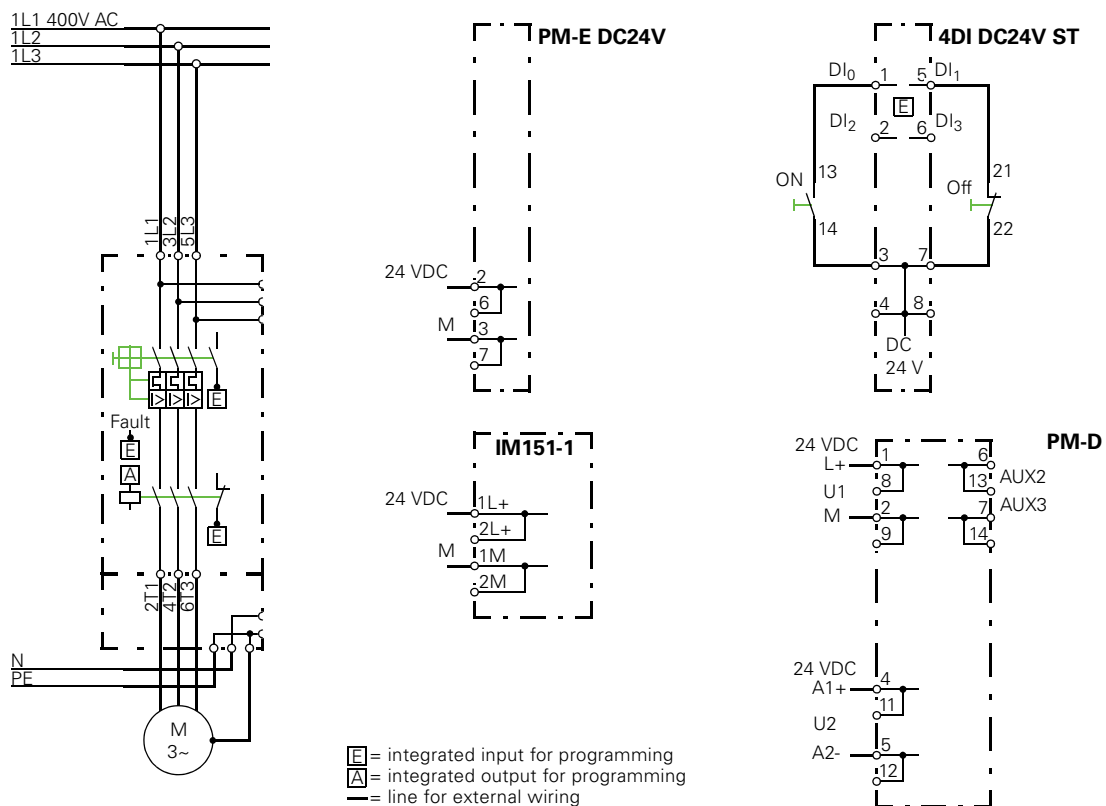

Figure 2-3: Circuitry for the example
2. Wire the ET 200S as shown in Figure 2-3. The bolded external lines must still be wired. These are: